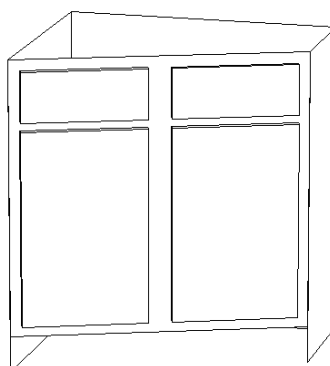

Figure 5
8. Figure 5 is the completed cabinet after deleting the toe kick. The toe kick will need to be added to match the side units using the **PLANE (P)** command. Set points at all corners of the toe kick and one more at the starting point to close the plane.